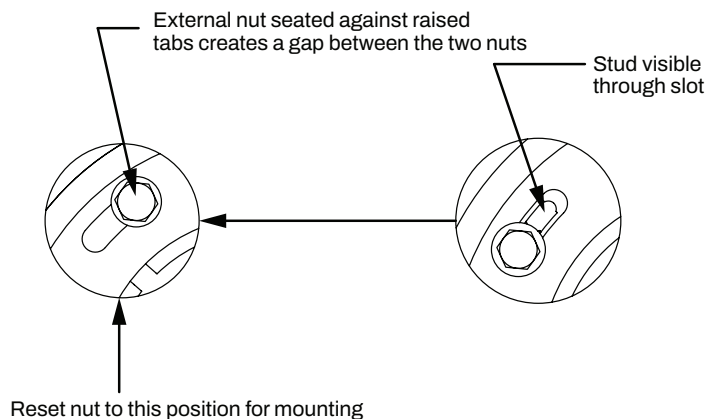

Figure 6 - External nut position for installation
- Loosen the hex head mounting bolts and position the external nut so that it is seated on top of the raised tabs, which creates the gap between the external and internal nuts. The external nut should be rotated counterclockwise so that the bolts are shouldered against the side of slot as shown in Figure 6. Thread the hex head bolts into the internal nut through each one of the slots on the external nut about three turns.